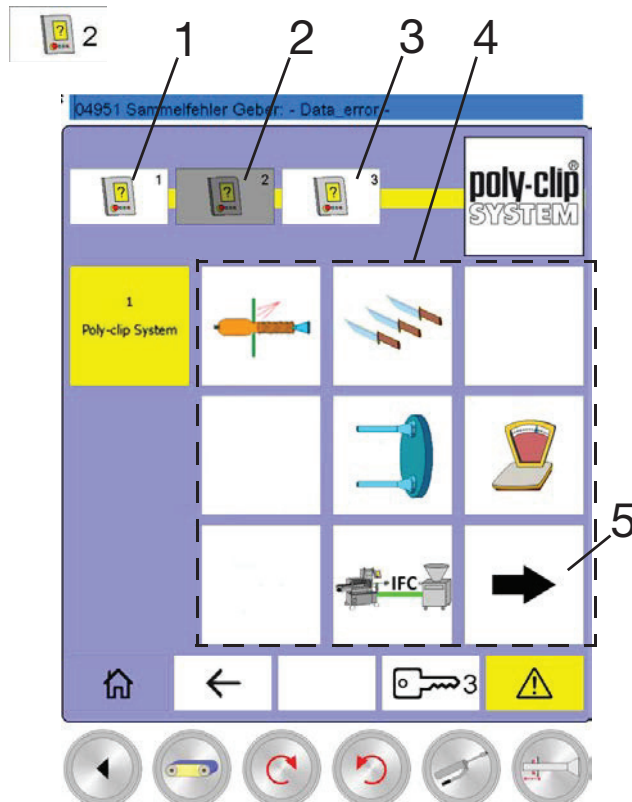

Fig. 4-61 Screen configuration for the Operator menu level, part 2
The “Screen configuration for the Operator menu level, part 2” screen appears (see Fig. 4-61).
If the entire Basic selection screen, part 3 should not be visible in the Operator menu level, you must switch icon selection button 5 (Fig. 4-61) to invisible. If some icon selection buttons in the Basic selection screen, part 3 are to remain visible, then you should not switch icon selection button 5 to invisible.
- Press button 3 Fig. 4-61: